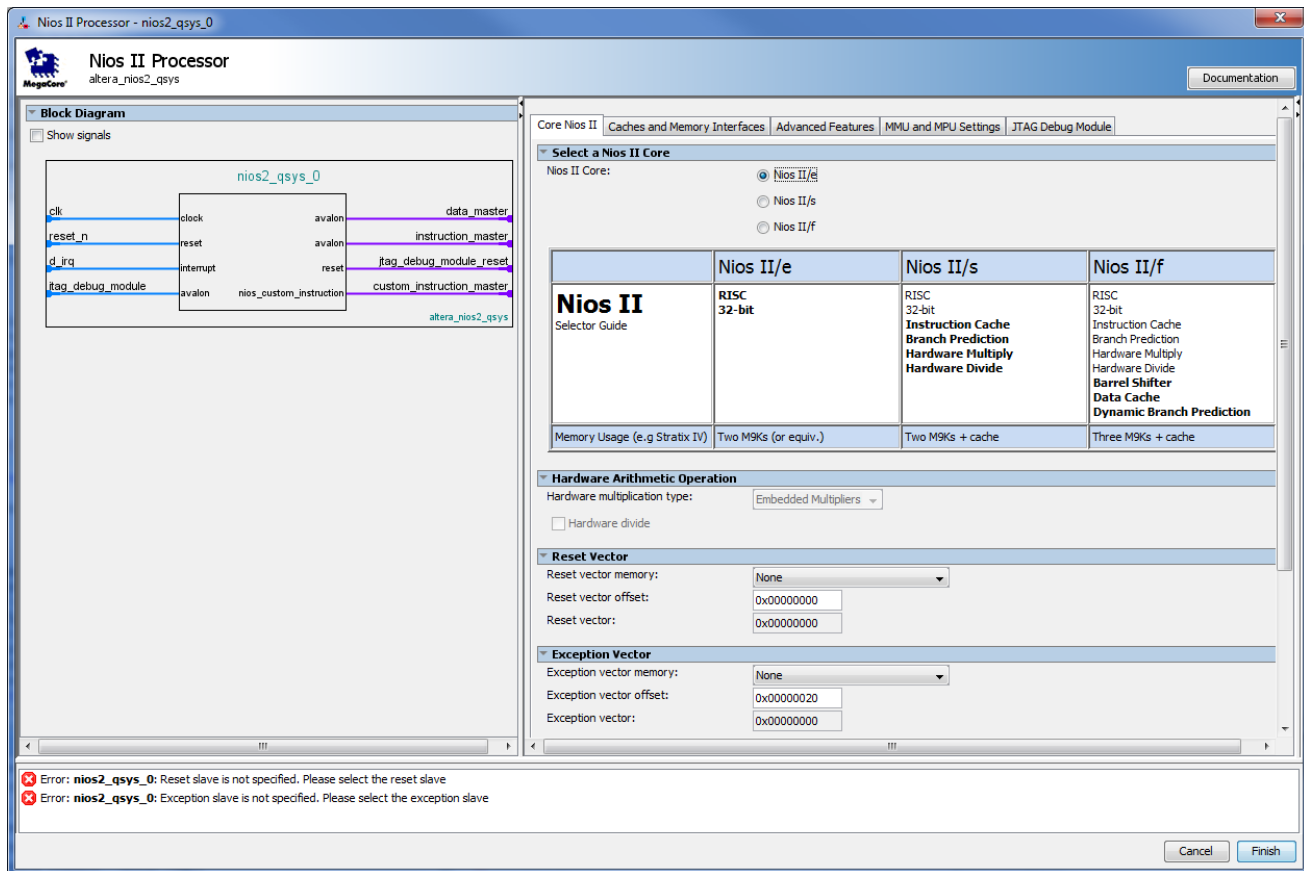

Figure 6. Create a Nios II processor.
- On the left side of the Qsys window expand Embedded Processors, select Nios II Processor and click Add, which leads to the window in Figure 6.